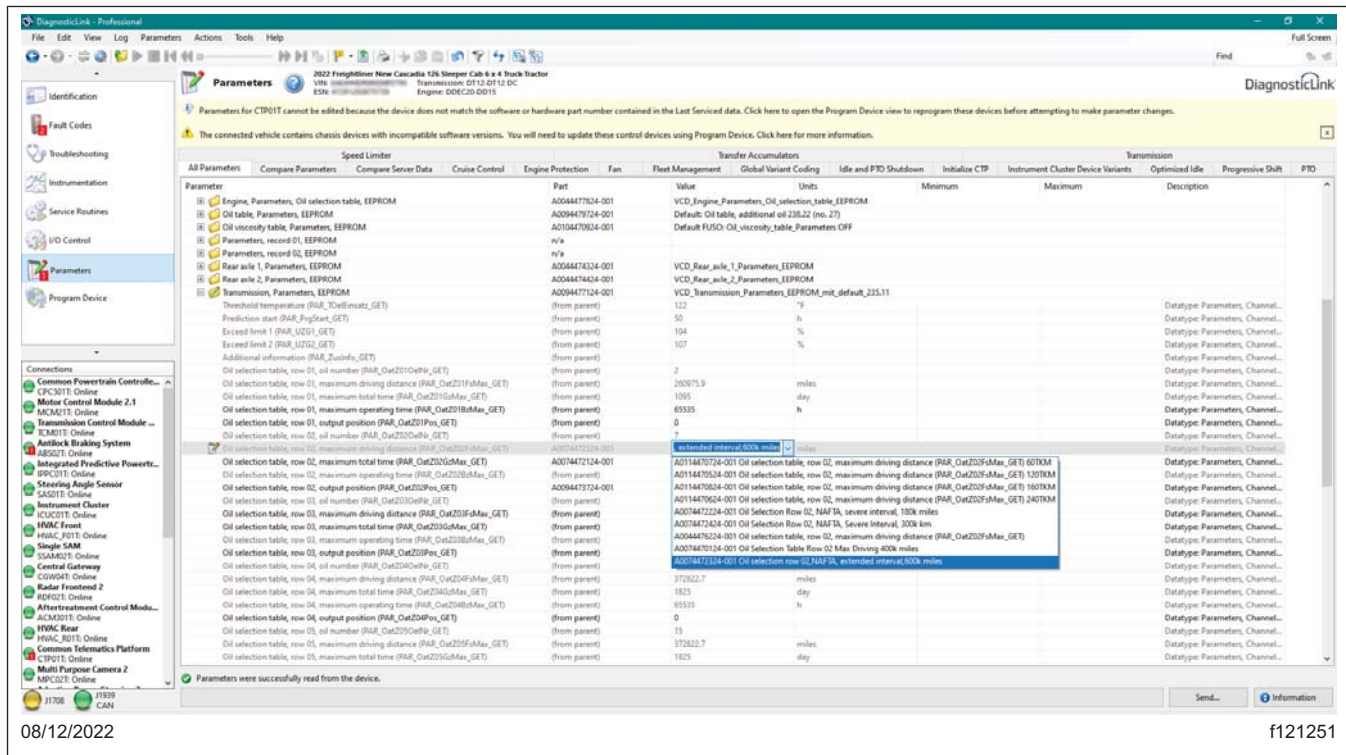

Fig. 3, Selecting Extended 600k Mile Interval
7. Select the correct parameter for the line haul application. Select 'Oil selection table, row 02, maximum driving distance (PAR\_OatZ02FsMax\_GET).' Select parameter 'A0074472324-001 Oil selection row 02, NAFTA, extended interval, 600k miles.' For line haul applications, select 'A0074472324-001 Oil selection row 02, NAFTA, extended interval, 600k miles.' See Fig. 3.